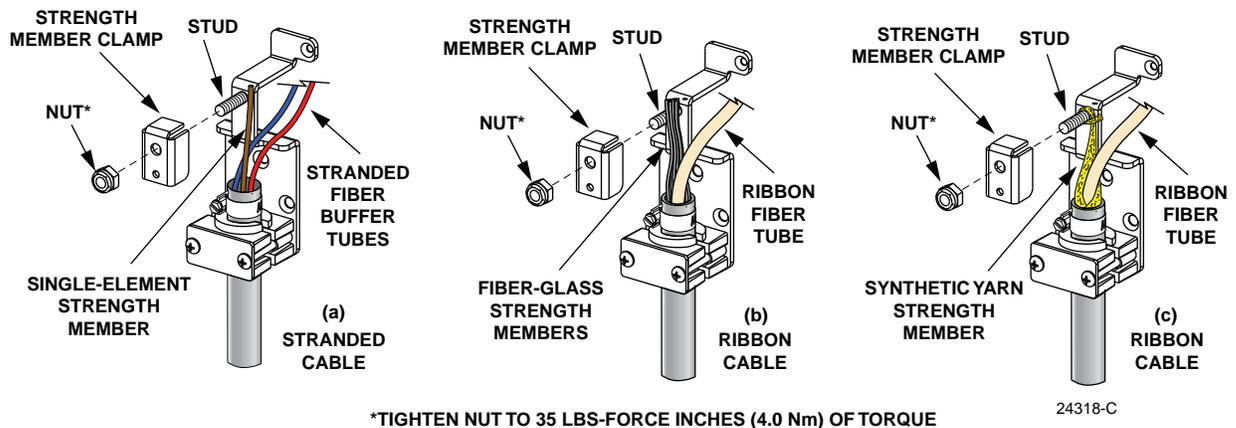

Figure 17. Strength Member Clamp Installation
15. Disassemble the cable strength member clamp as shown in Figure 17. For stranded cable, the strength member will usually consist of a single element. For ribbon cable, the strength member may consist of a stranded fiberglass sheath or yellow synthetic fiber yarn.